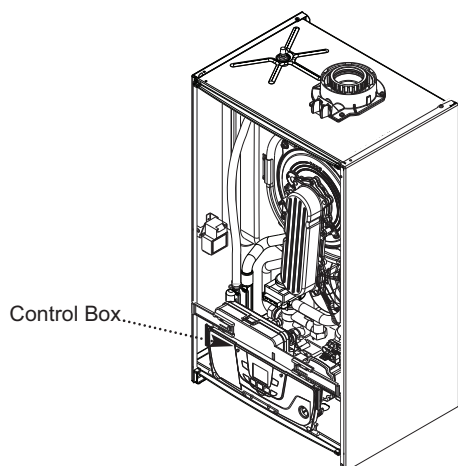

Fig. 34
2. Hinge the control box downwards. Disengage the securing tabs and open the terminal block cover. (Fig. 34).